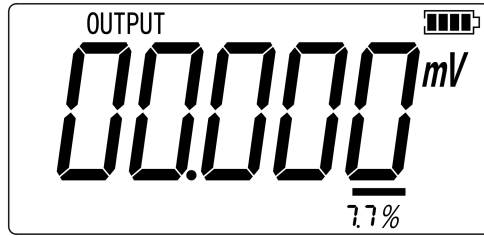

Figure 2.1-5
7. Press to enter into DC mV output mode as shown in Figure 2.1-5.